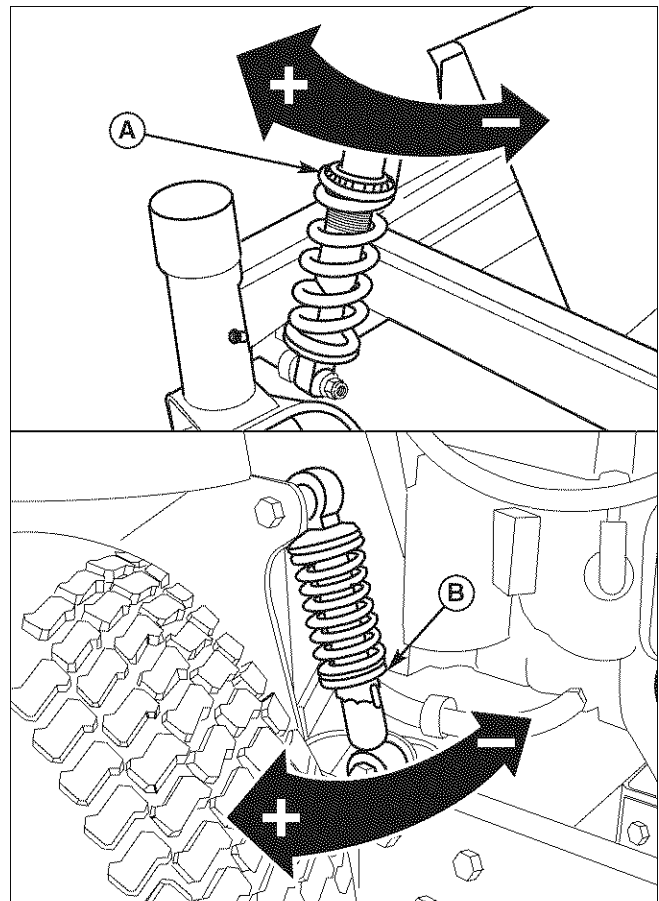

Figure 28. Suspension Adjustment
2. See Figure 28. Turn the pre-load adjustment collar (A) CLOCKWISE to increase the pre-load, turn COUNTER-CLOCKWISE to decrease the pre-load. Make sure both front shocks are set to the same amount of pre-load. Make sure both rear shocks are set to the same amount of pre-load.